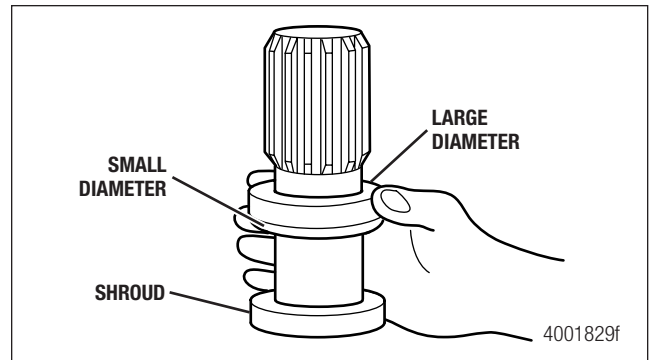

Figure 8.7
2. Install the new seal onto the spline shaft neck. Ensure that the small diameter side fits onto the splines first. Figure 8.7.